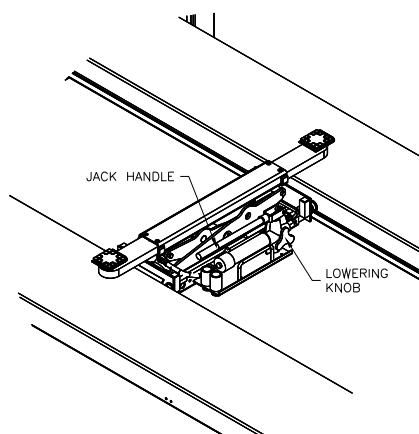

Fig 23 – Rolling Jack
- 2) Make sure the lowering valve is closed all the way by turning the knob clockwise, **Fig 23**.